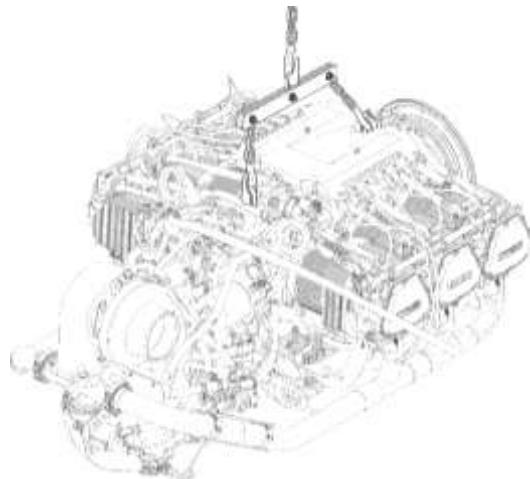

Figure 3
1. Connect the hoist and chains to the lifting straps (Figure 3) on the engine and remove any slack in the chain.